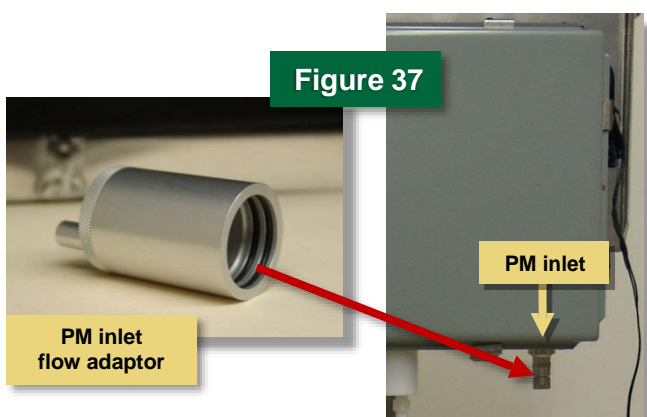
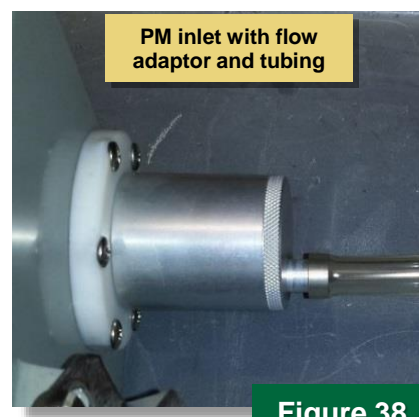

Figure 37
Figure 38
3. Connect the adaptor to the PM Inlet (Figure 37), and then attach the provided tubing, as shown in Figure 38.